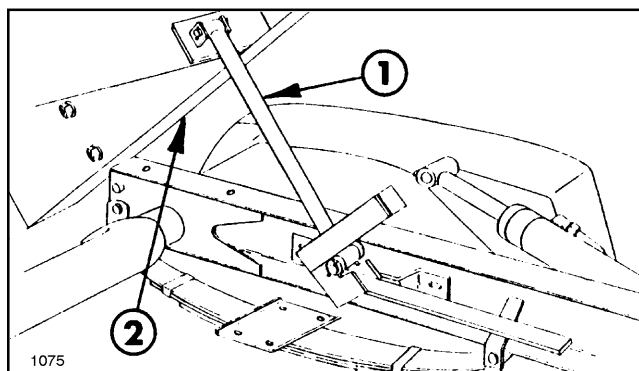

FIG. 9
10. Assemble the (2) 3/8" long spacers, clevis pin, and cotter pin to one end of the strut support rod. Insert Strut Support Rod through the support bracket located on left side of the vehicle (FIG. 9).
11. Attach the strut support rod assembly to the inside of the skid at the rear bulkhead using the clevis and cotter pin (FIG. 9).